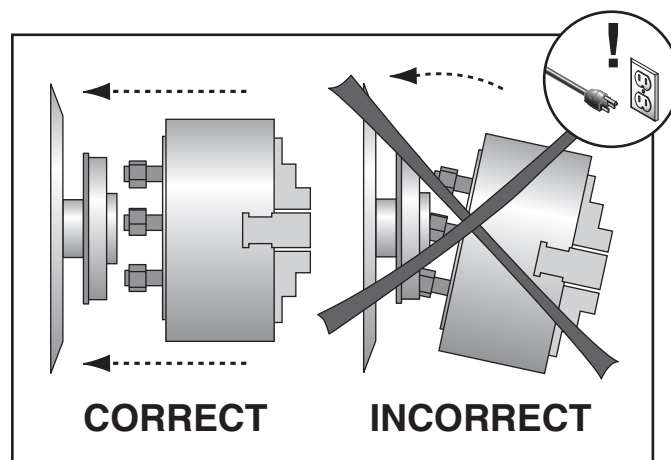

Figure 36. Inserting chuck standoff studs into spindle and locking flange holes.
5. Install chuck/faceplate by inserting standoff studs straight into spindle and locking flange holes (see **Figure 36**).